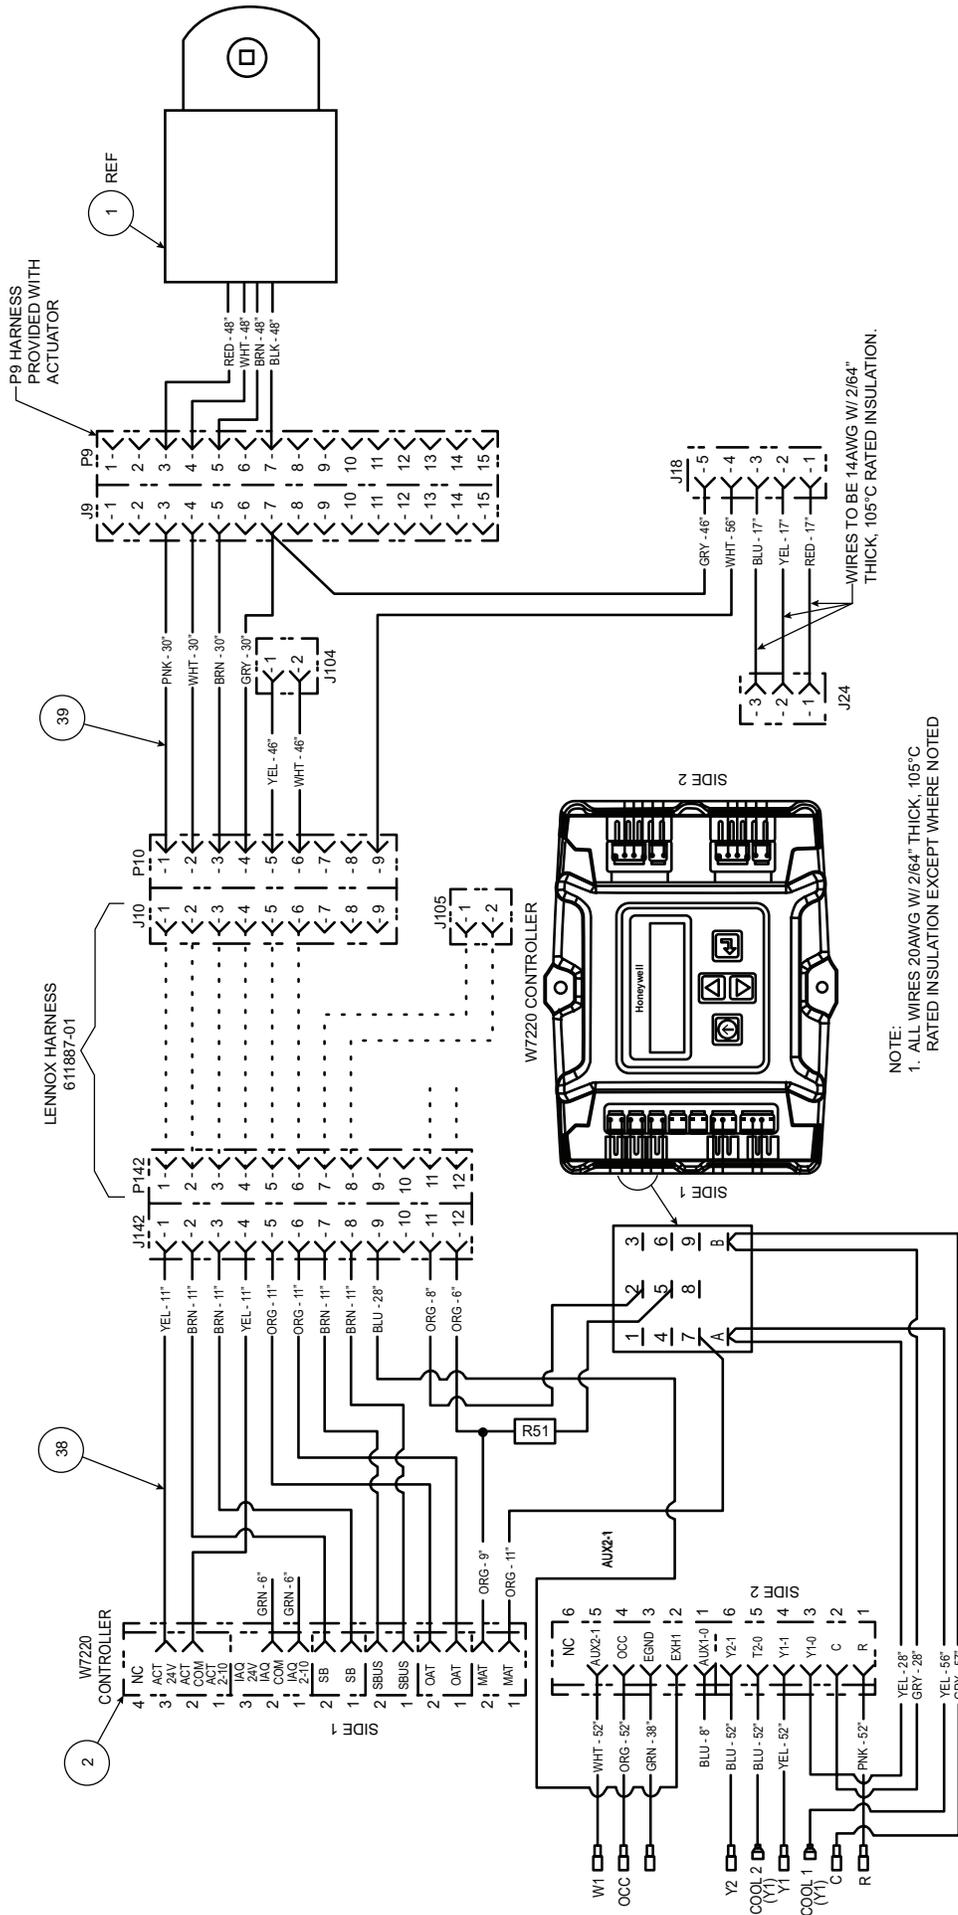

Figure 5 - Wiring Detail
7. If optional power exhaust is used, wire according to instructions provided with power exhaust. See Fig. 5.